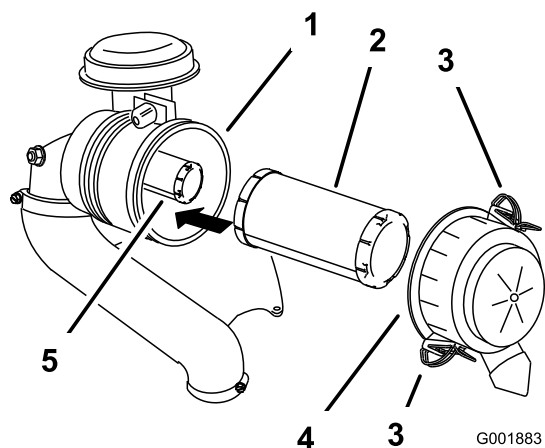

Figure 43
3. Release the latches on the air cleaner and pull the air-cleaner cover off the air-cleaner body (Figure 43).
5. Gently slide the primary filter out of the air-cleaner body (Figure 43).
2. If you are replacing the inner filter, carefully slide it into the filter body (Figure 43).
3. Carefully slide the primary filter over the safety filter (Figure 43).
4. Install the air-cleaner cover and secure the latches (Figure 43).